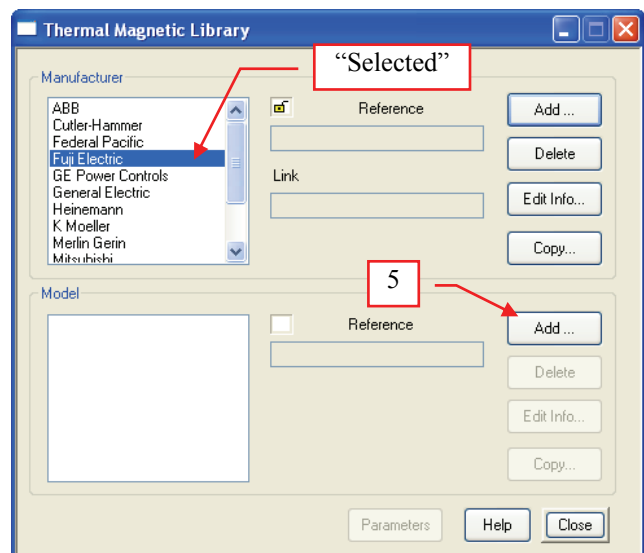

Fig. 16
5. With the “Fuji Electric” selected in the list box of the “Manufacturer” frame, click the “Add...” button in the “Model” frame. See Fig. 16